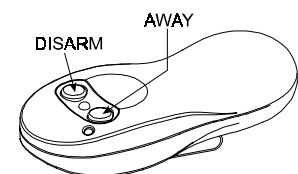

Figure 24. MCT-132 / 102
**D. MCT-132 / 102\*** (Fig. 24): 2-button units. MCT-132 (CodeSecure) Can perform functions as shown. MCT-102 (PowerCode) can perform emergency and non-alarm tasks. Both units look alike.